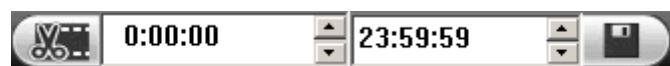

Figure 5-73
- In this following figure, input start time and end time. See Figure 5-73. Click save button .